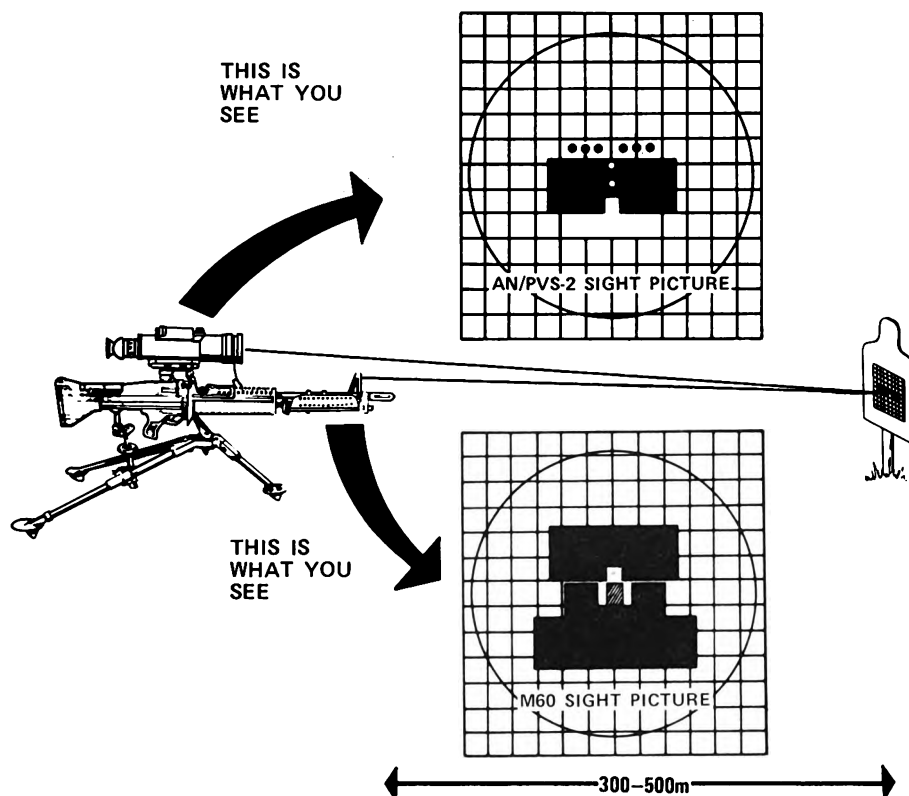

Figure 3.
2. The Known-Distance Target Method of Zeroing. Use a tripod. If one is not available, use a rest which gives maximum stability (figure 3).